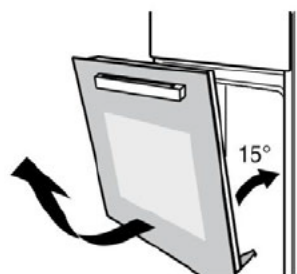

Figure 2
- Close the oven door to about 15 degrees, then lift the door, and slowly pull out from the oven. (Figure 2)